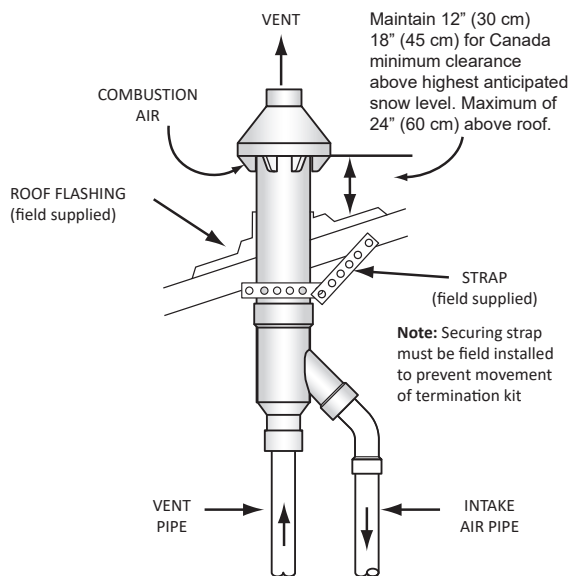

Figure 33. Installing Concentric Termination Assembly on a Roof
5. Secure assembly to roof structure as shown in **Figure 33** using field-supplied metal strapping or equivalent support material.
Note: Ensure termination height is above the roof surface or anticipated snow level as shown in **Figure 33**.
7. Cement water heater combustion air intake and vent pipes to concentric vent termination assembly. See **Figure 33** for proper pipe attachment.